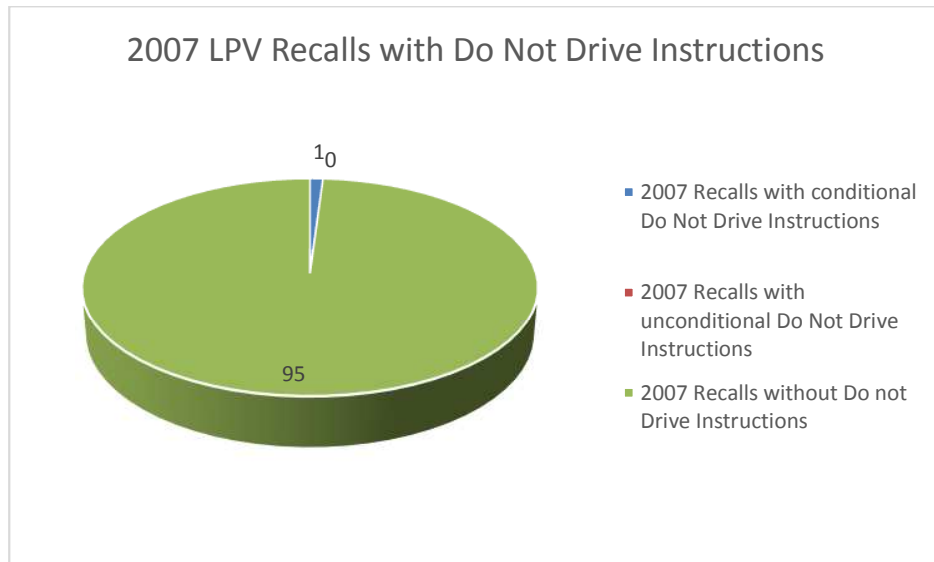

Figure 7. 2007 LPV Recalls with Do Not Drive Instructions
One (1) of the ninety six (96) 2007 LPV recalls contained DND instructions. No recalls had an unconditional “do not drive” vehicle recommendation. Figure 7 shows the number of 2007 LPV recalls that had DND instructions. For the text detailing the DND instructions for the 2007 LPV recall see Appendix A-7.